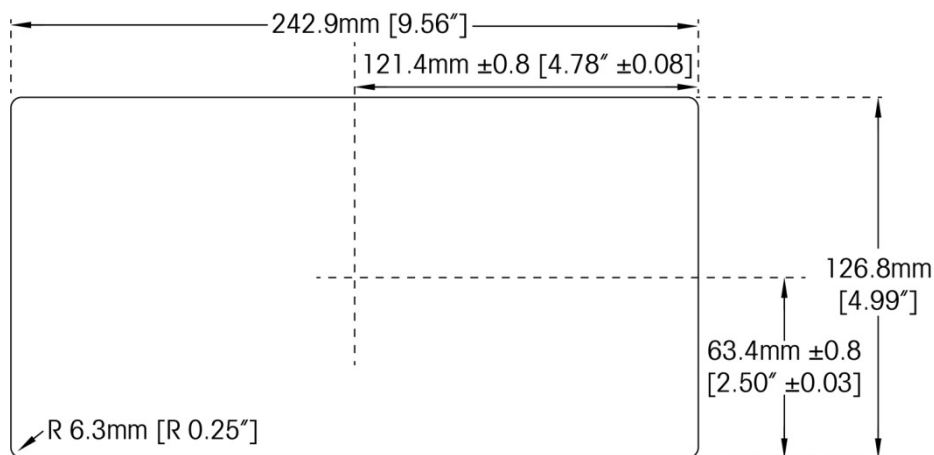

Figure A-10: Panel Cutout Dimensions
4. Cut an opening in the panel or industrial enclosure per the panel cutout dimensions shown in inches and [mm] in Figure A-10.